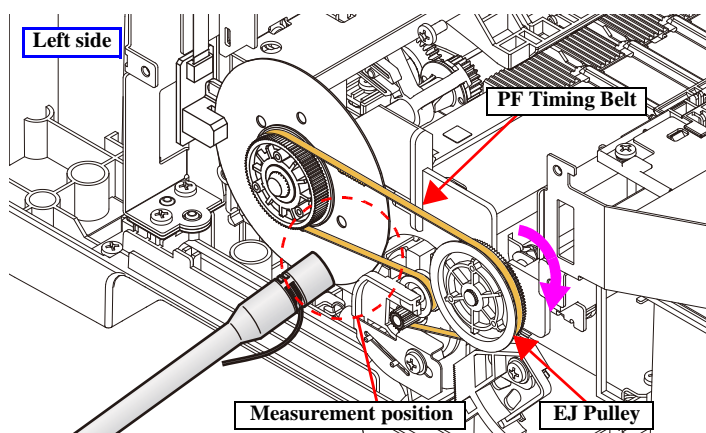

Figure 5-1. PF Timing Belt Tension Check
2. Bring the microphone of the sonic tension gauge close to the lower center of the PF Timing Belt as shown in Figure 5-1.